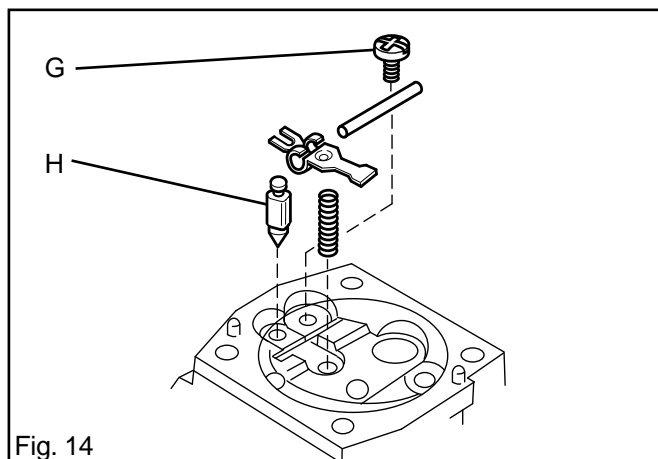

Fig. 14
5. Fit the needle valve (H) with lever arm, spindle and spring and tighten the screw (G). See fig 14.